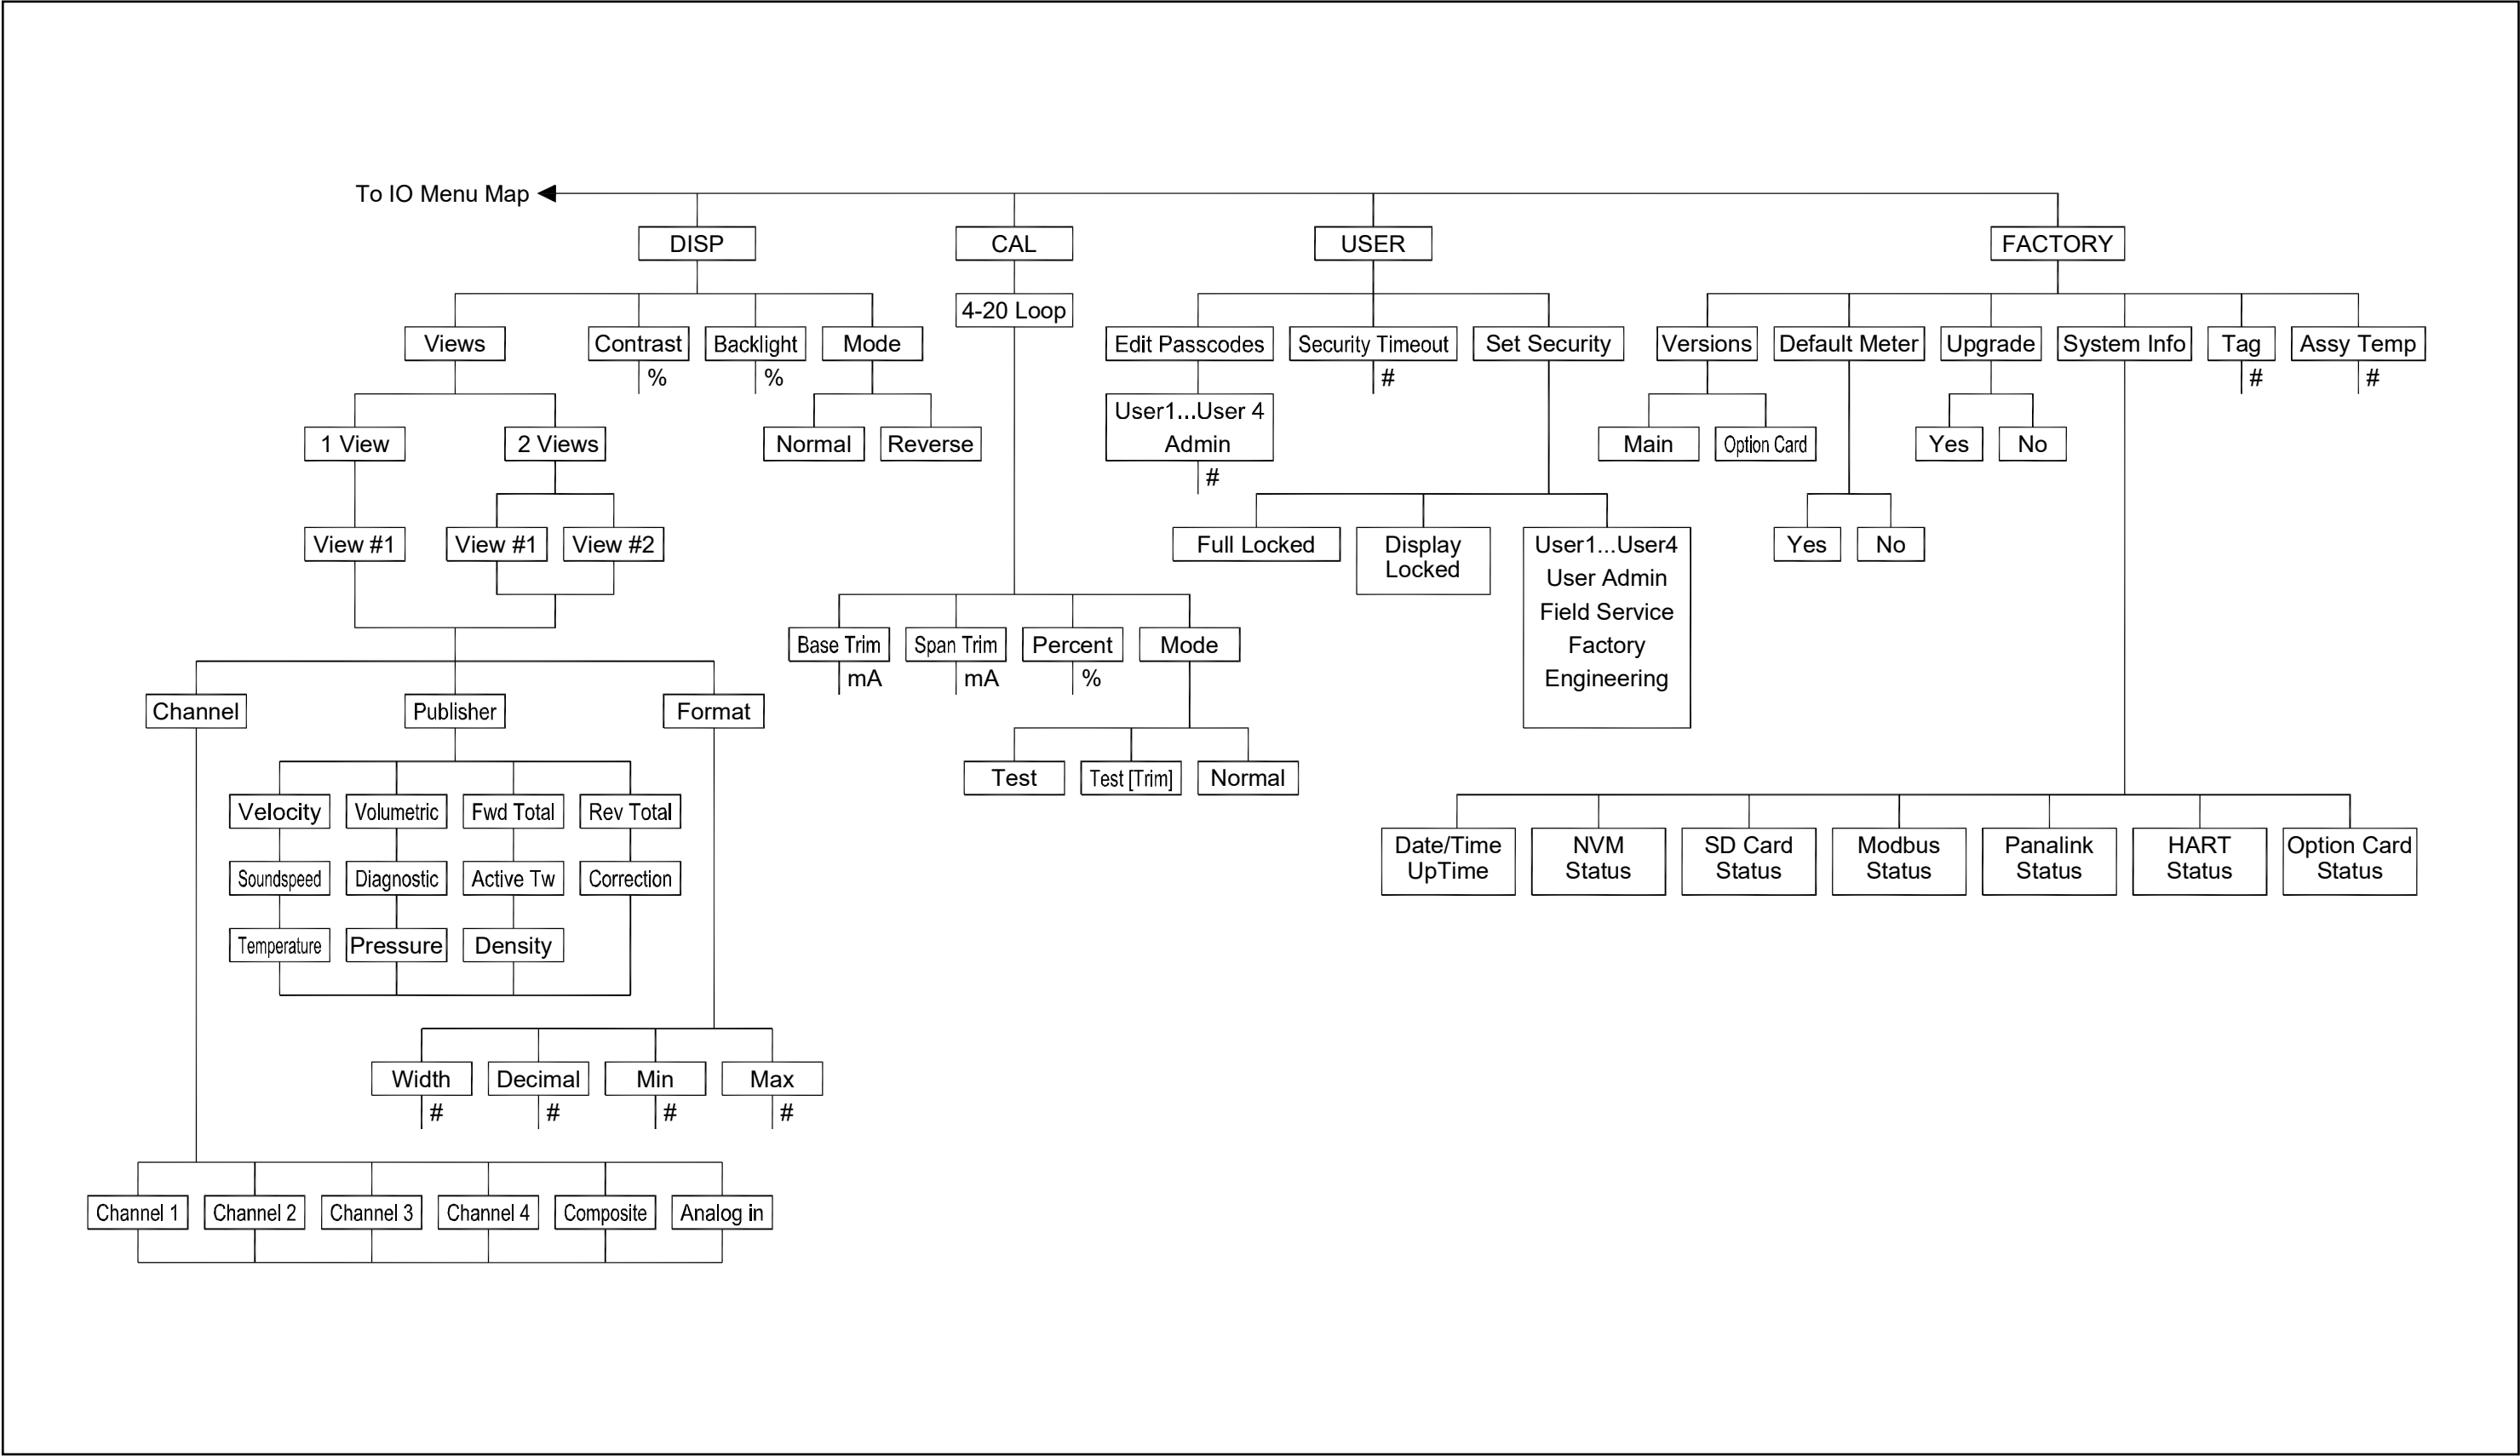

Figure 238: DISP, CAL, USER, and FACTORY Menu Map
- *Figure 238: DISP, CAL, USER, and FACTORY Menu Map*